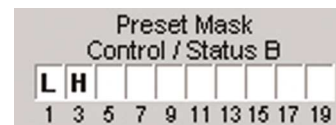

Figure 5.2. Preset Mask Control/Status B
A typical use for Preset Mask Control Status B is a room combining application which uses automatic partitions with sensors or triggers which set the pin to high (H) when the partition is closed and to low (L) when the partition is open. For example, if pin 1 is connected to the first partition and pin 3 is connected to the second partition, then the Preset Mask Control Status B settings shown in Figure 5.2 will activate the preset when the first partition is open and the second partition is closed.